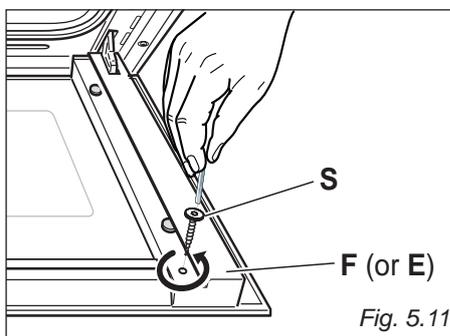

Fig. 5.11
- Unscrew and remove the hex screw "S" fitted on left "E" or right "F" slide guide, above the top edge of the inner glass (fig. 5.11).